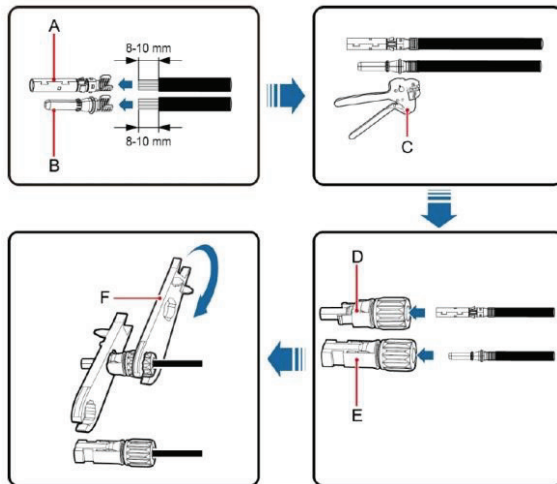

Fig 5.2 Connection between MC4 DC connector and PV string
(1) As shown in Fig 5.2, connect the output wire of the PV string to the DC connector of the inverter. Loosen the fastening nut of the connector; strip off the 15mm insulation layer of the DC cable, and use crimping pliers to press the standard metal terminal tightly. The tightening torque of the waterproof part of the tail is 2.5-3Nm. The wiring method of the positive and negative connectors is the same. Confirm that the positive and negative poles of the PV string correspond correctly to the positive and negative connectors, then connect them firmly;